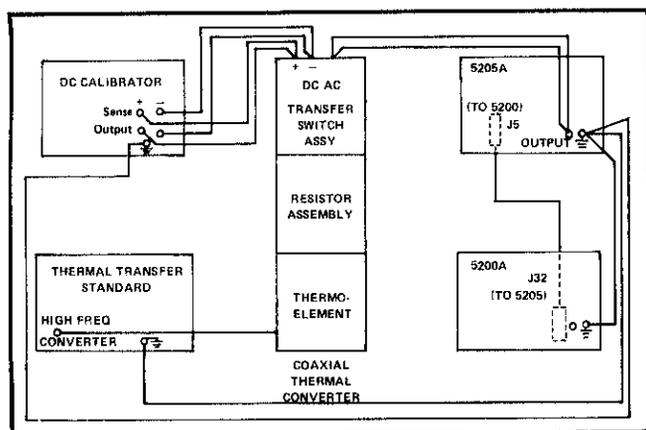

Figure 4-3. CALIBRATOR MODE CONNECTIONS
c. Connect the test equipment as shown in Figure 4-3.